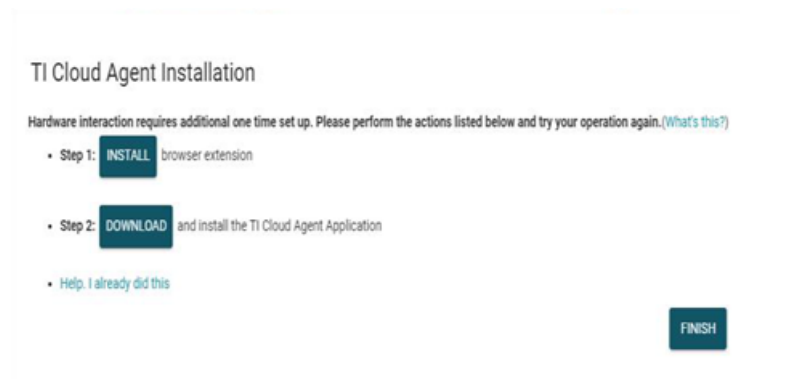

Figure 4-1. Browser Extension and TI Cloud Agent Installation
3. First-time users may be prompted to download and install the browser extension for Firefox™ or Chrome™ and the TI Cloud Agent Application as shown in Figure 4-1. Installing the TI Cloud Agent is a one time download and installation.